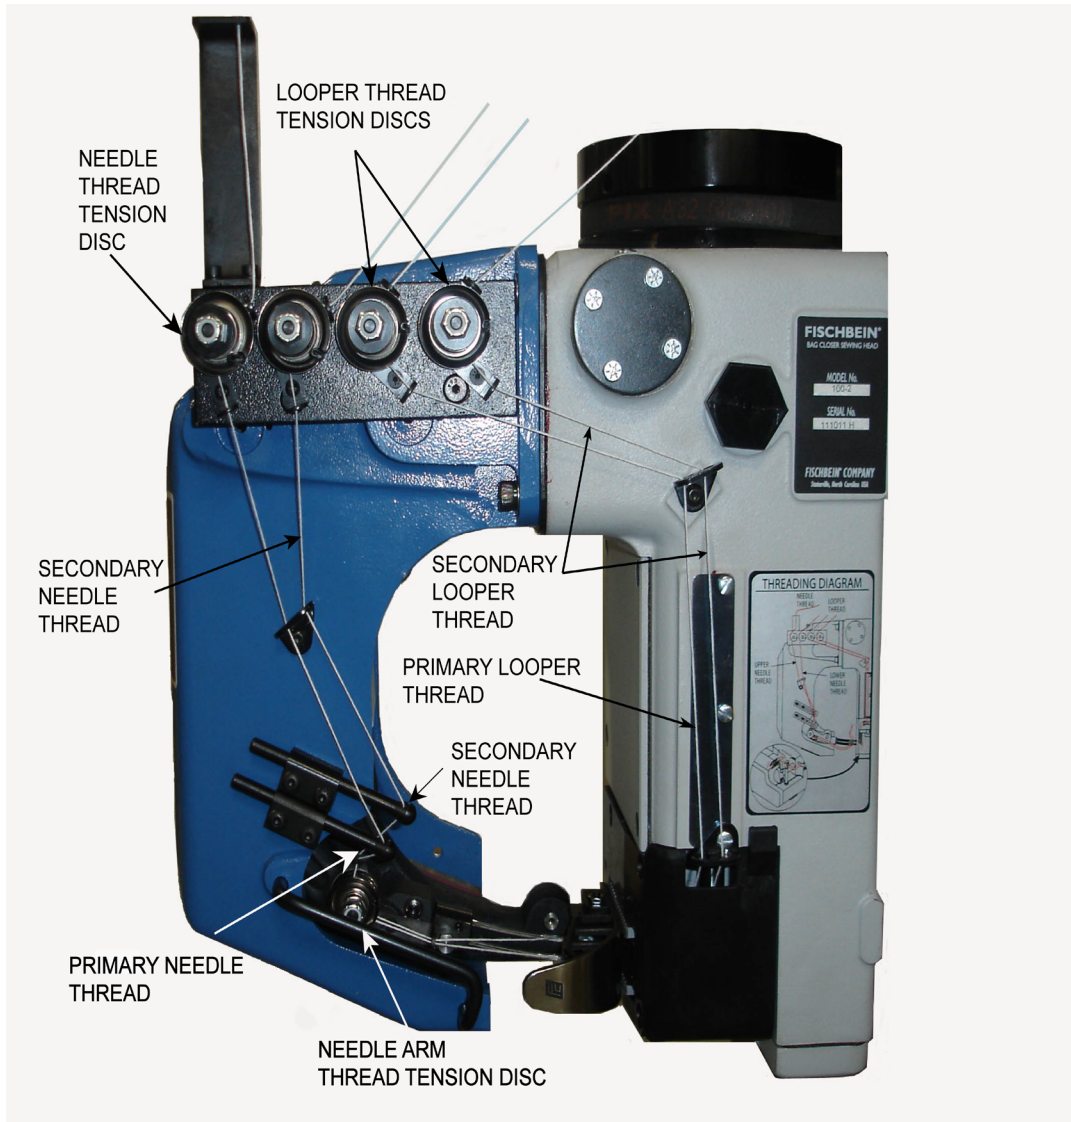

Figure 4.4 Sewing Head Thread Route
2. Refer Figure 4-4 and 4-5. Thread the needles as shown.